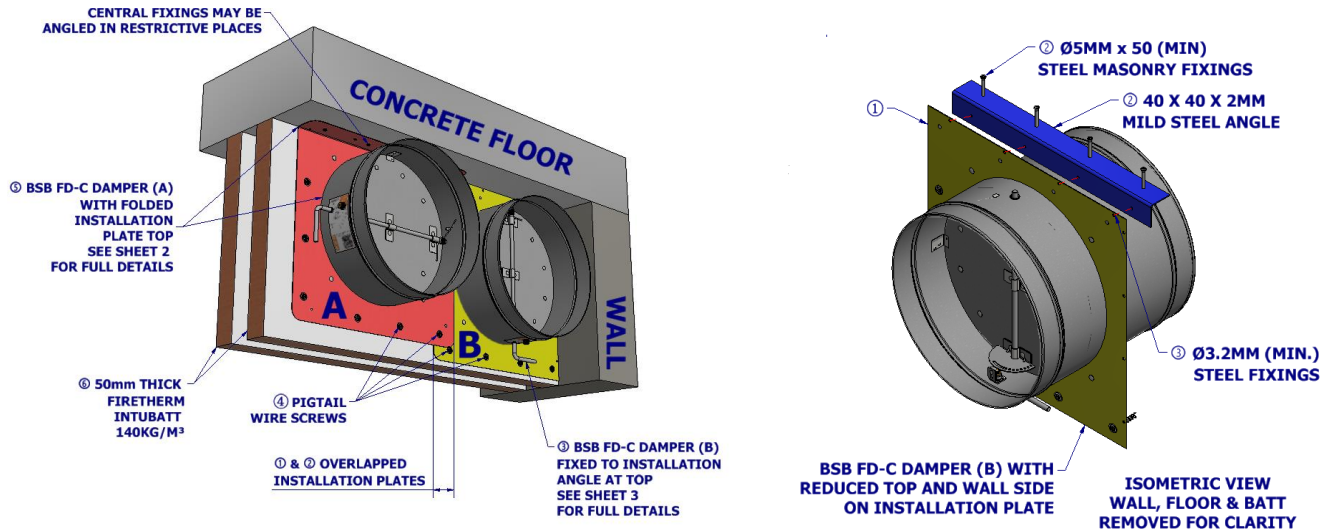

Fig 5
8.2.3 A length of steel supporting angle should be affixed to the top of the opening as shown in fig. 5